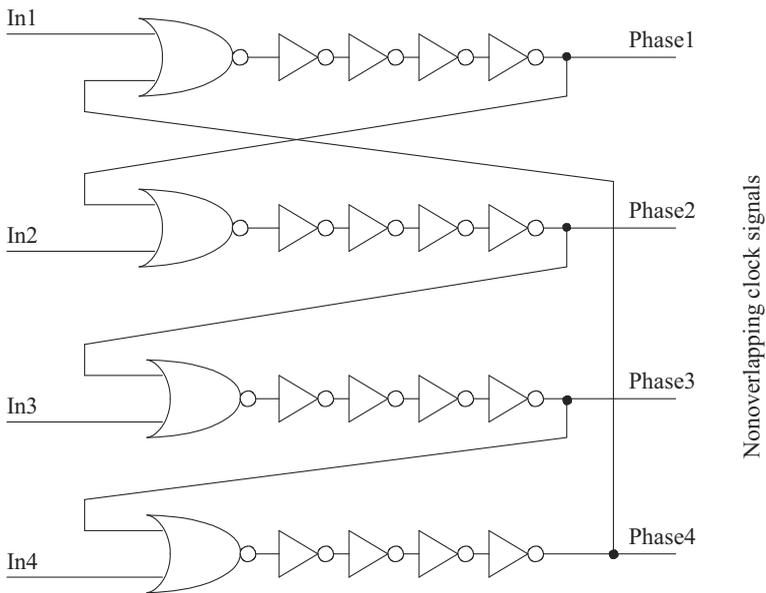

Figure 30.81 Four-phase, nonoverlapping clock generator.
- 30.21** Sketch a circuit to provide the inputs for the four-phase, nonoverlapping clock generator shown in Fig. 30.81.